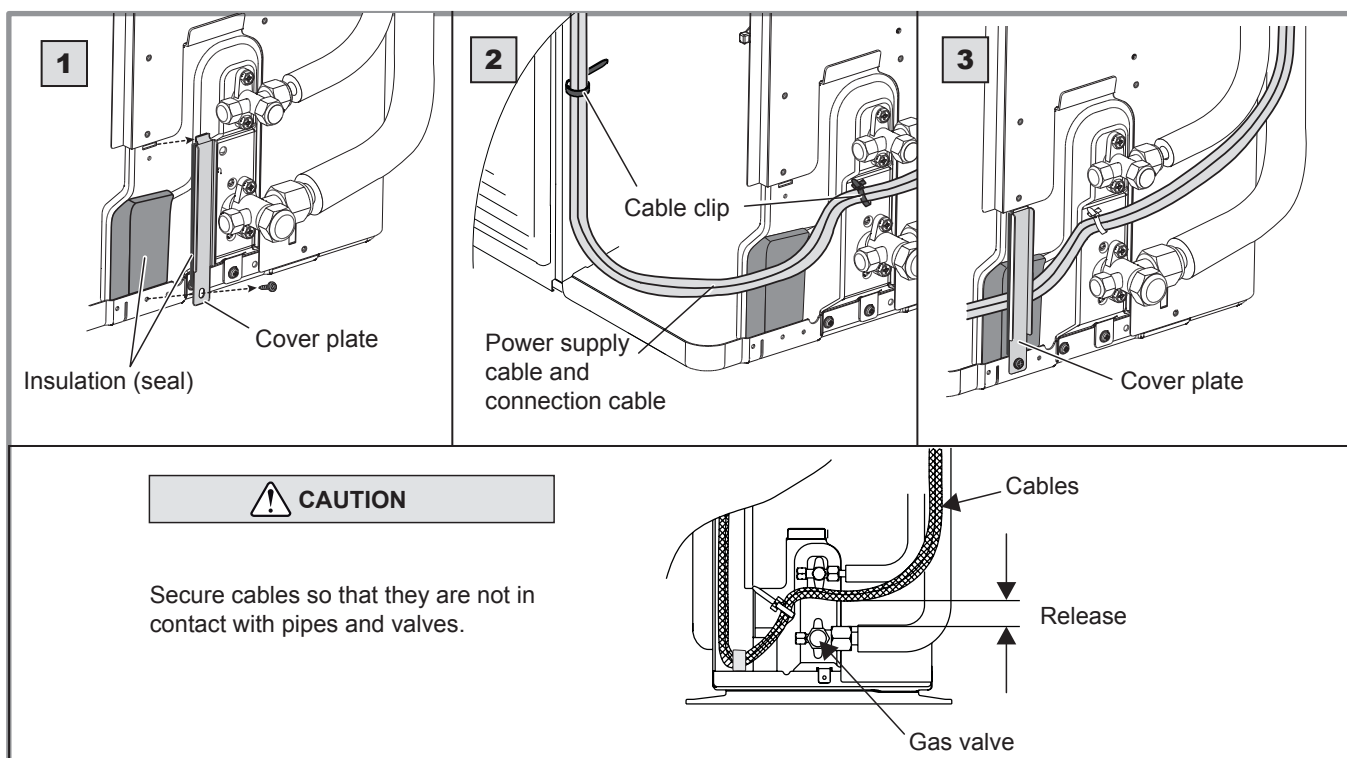

figure 36 - Finalisation of connection to single phase outdoor unit
- Use the mounting plate to hold the cables against the insulating plate (**figure 36**).